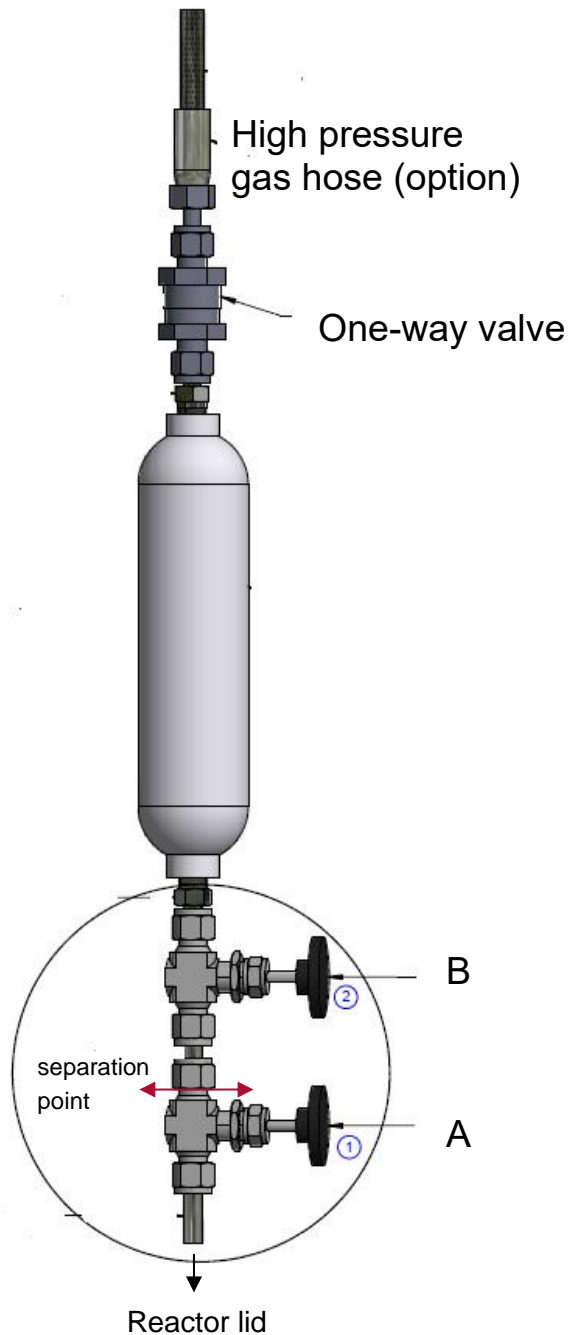

Figure 1. Gas sampling cylinders 1-3 are given with a representative technical drawing of cylinder with 150 ml volume.
- 6- Loose the connection between the valves A and B (separation point - 8 mm tube fitting - shown in figure 1) to transport the gas cylinder containing gas aimed to be analyzed.